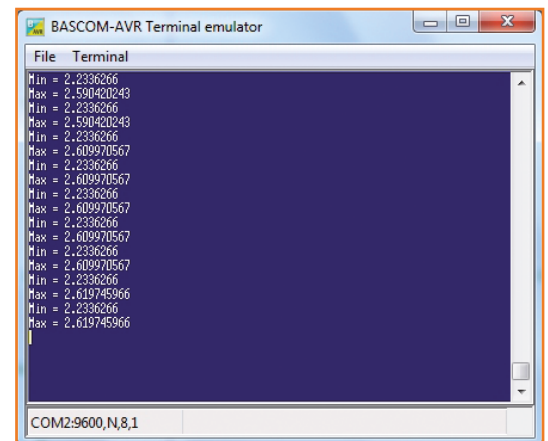

Figure 9. The upper and lower switching thresholds of an input.
**Figure 9** shows the result of this experiment. The switching thresholds are 2.23 V and 2.62 V. These are approximately the same as the values determined using the external test equipment.